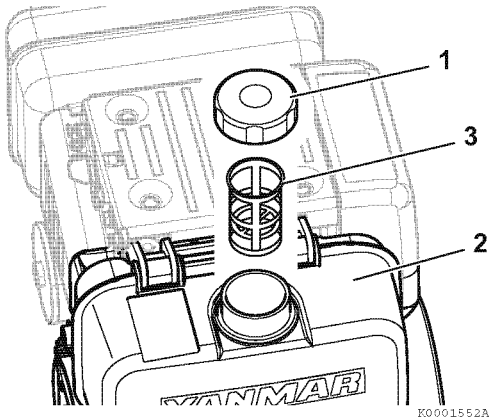

Figure 5-6
1. Clean the area around the fuel cap (1, Figure 5-6).
2. Remove the fuel cap from the fuel tank (2, Figure 5-6).
3. Lift out the inlet fuel screen (3, Figure 5-6).